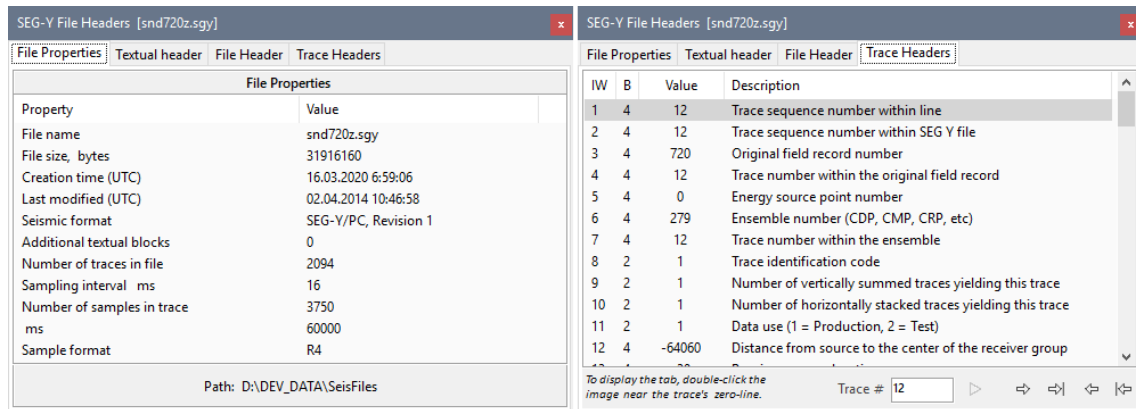

Fig. 3. SEG-Y file properties dialog: general properties page (left) and trace headers page (right).
- 5. File and trace properties.** The **Y** button of the frame toolbar displays a 4-page dialog, shown (partly) on fig. 3. Page names explain their content.